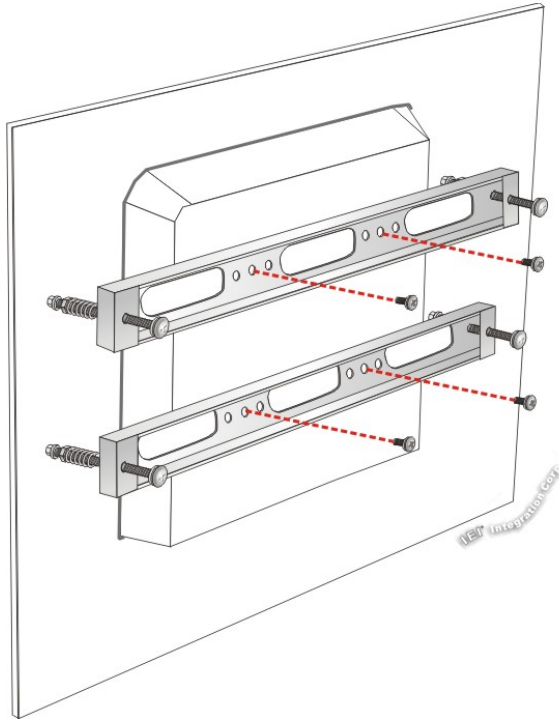

Figure 3-31: Securing Panel Mounting Brackets
Step 7: Secure the two panel mounting brackets to the rear of the panel PC by inserting the four retention screws into the VESA mounting holes and tightening them (**Figure 3-31**).